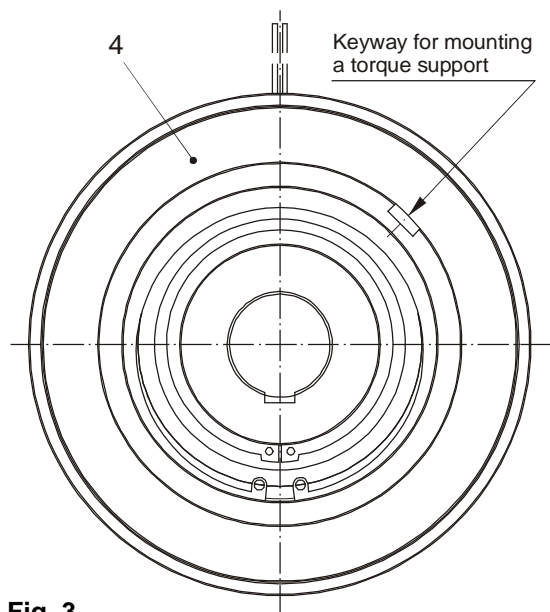
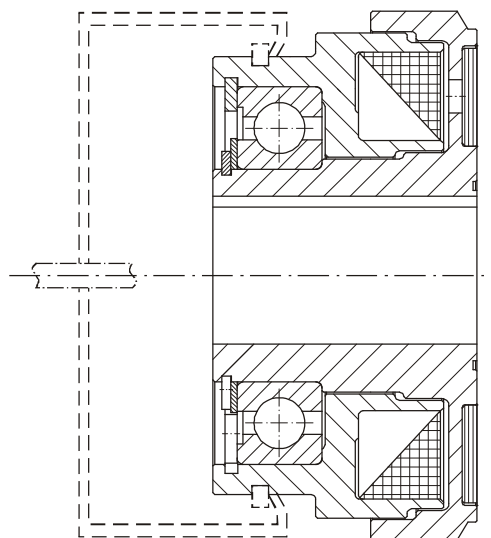
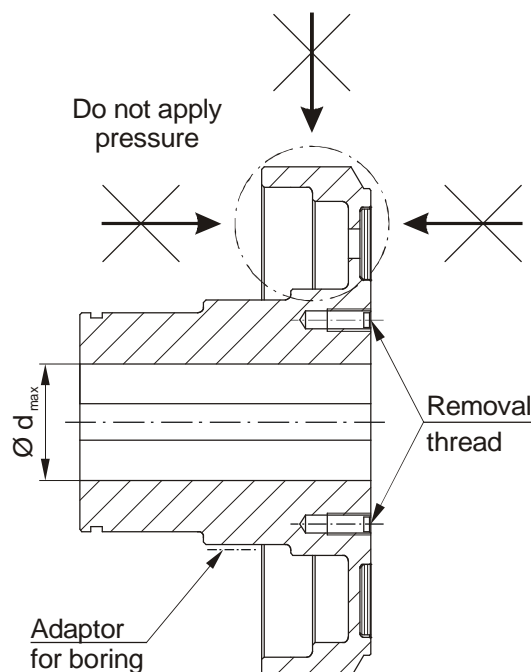

Fig. 3
Fig. 4
Fig. 5
- ❑ Support the coil carrier (3) against twisting (Fig. 3).
- ❑ The friction surfaces of the rotor (1 or 2) and the armature disk (9) must be kept free of oil and grease.
- ❑ Remove the clutch from the shaft over the snap ring groove on the coil carrier (3) using a locking ring (Fig. 4), or over the tapped holes on the rotor facing side (only on rotor Type 540. 100 / Fig. 5).
The locking ring (Fig. 4) is not included in delivery.
Boring the Rotor Hub (Fig. 5)
The rotor (1 or 2) must not be bent during boring. Do not put pressure on the outer, thin-walled area of the rotor (1 or 2), see Fig. 5.
In order to bore, clamp the rotor (1 or 2) onto the hub, as depicted in Fig. 5.